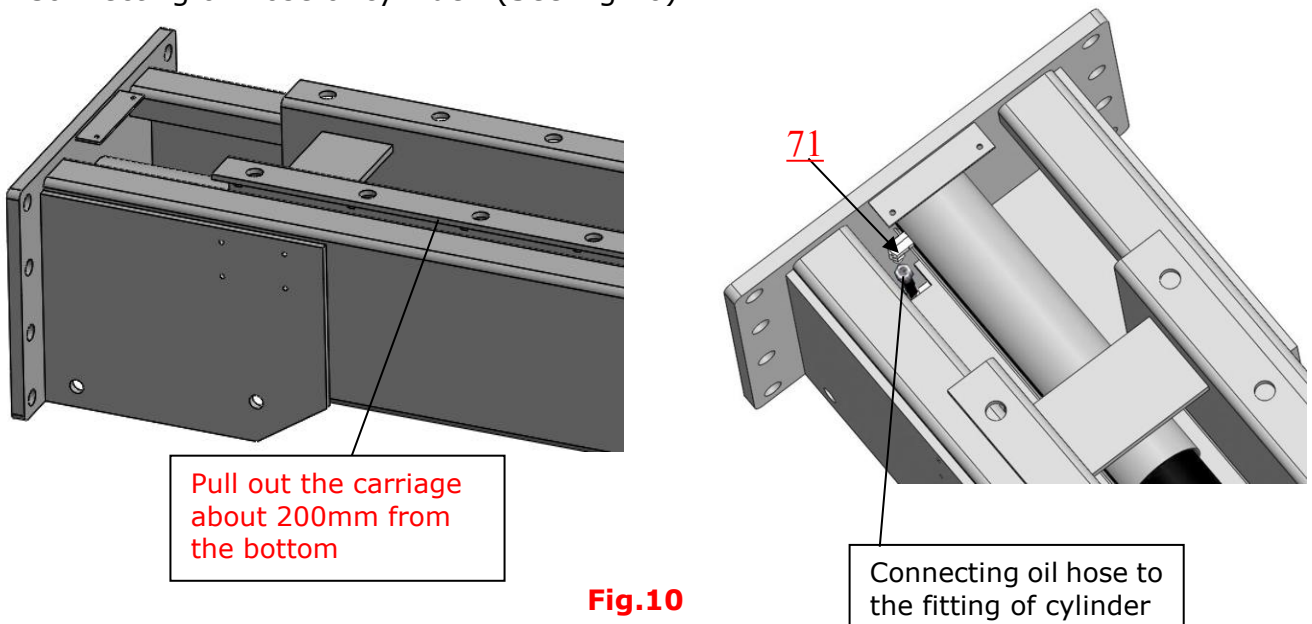

Fig.10
2.Connecting oil hose of cylinder. (See Fig.10)